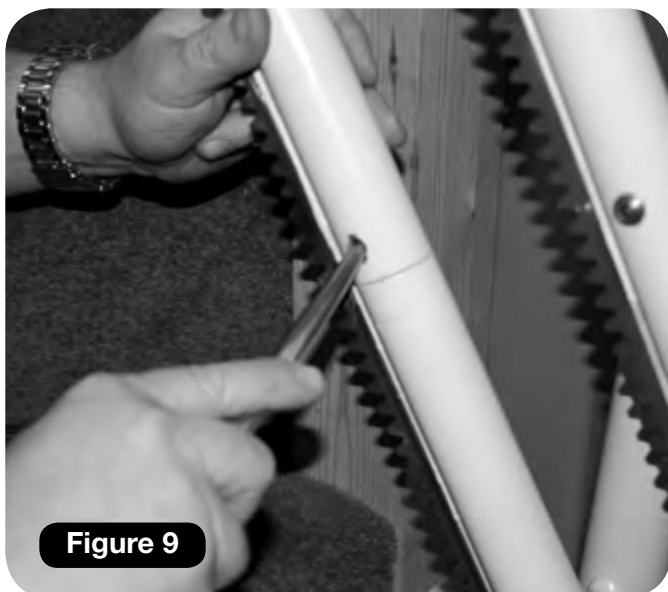

Figure 9
- 2 Add the next sections of rail. Top section first and then the bottom section. Use a podger spanner tool to help ease the two sections of rail together (**Figure 9**).